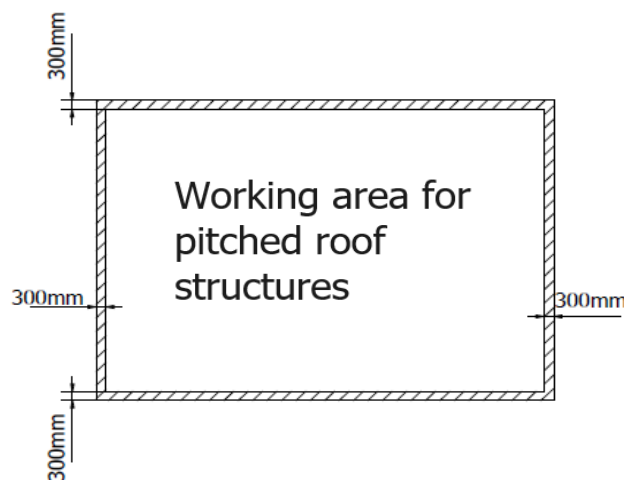

FIGURE. 1 Working area for pitched roof structures
- ## 2. The layout of the modules shall be arranged to minimize or preclude the appearance of shadows on the modules. Keep in mind that even the shadow cast by trees or buildings can limit the yields generated by modules. When mounting the system in summer, be aware that the shadow cast by trees and neighboring buildings will reach much further in winter. Also, remember to keep the safe zone on the roof sheathing (figure 1).